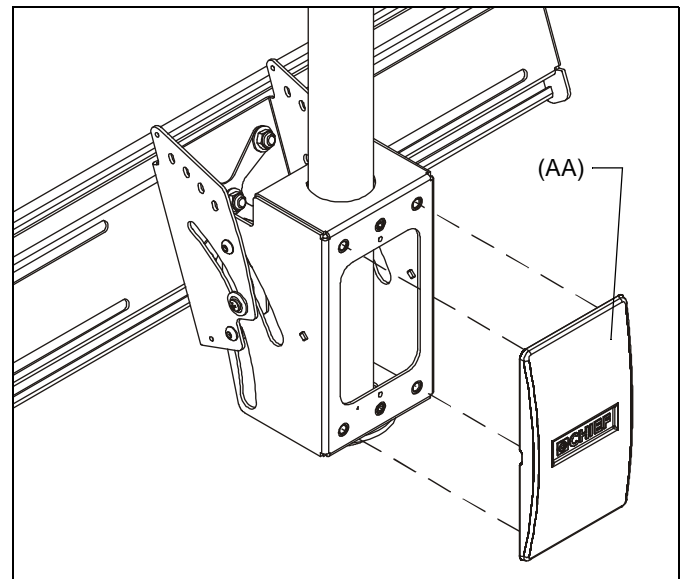

Figure 14
2. Install back cover (AA) into four holes on back of ceiling mount. (See Figure 14)